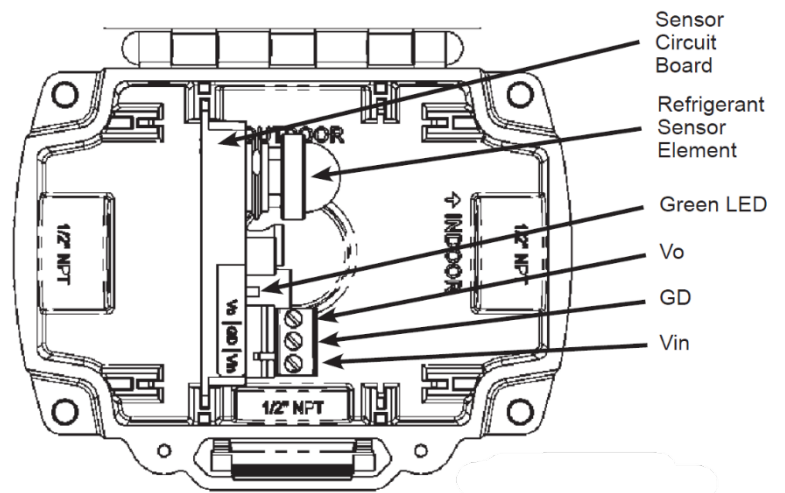

Figure 2: Component Identifier and Electrical Connections
1. Mount the unit horizontally as shown in Fig 2 on a solid, non-vibrating surface.